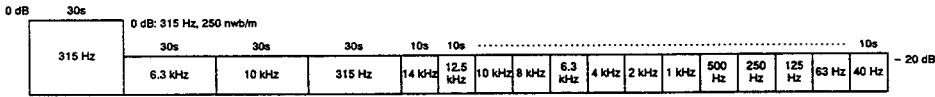

Fig. 6-3 Constants of the test tape STD-331E
- STD-331E : Playback adjustments (See Fig. 6-3)